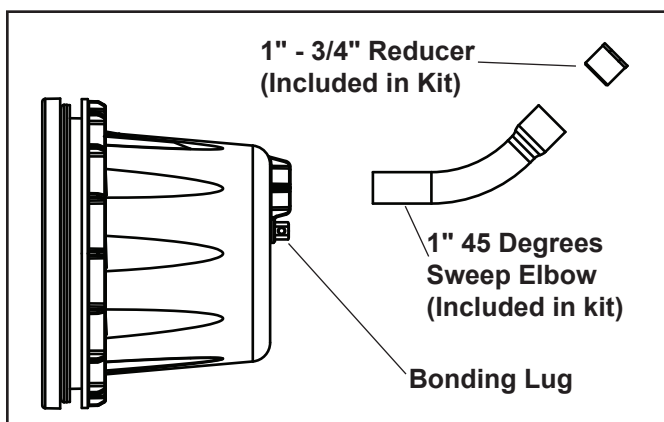

Figure 3. Plastic Niche Installation
- e. Attach conduit to the back of niche using the proper PVC/CPVC primer and glue. A one (1) inch PVC 45 degrees sweep elbow is included with the niche to direct the conduit pipe upwards toward the junction box. (A 3/4 inch reducer is also included with the niche to permit the use of 3/4 inch conduit pipe). See Figure 3.
- e. Attach conduit to the back of niche using the proper PVC/CPVC primer and glue. A one (1) inch PVC 45 degrees sweep elbow is included with the niche to direct the conduit pipe upwards toward the junction box. (A $\frac{3}{4}$ inch reducer is also included with the niche to permit the use of $\frac{3}{4}$ inch conduit pipe). See Figure 3.